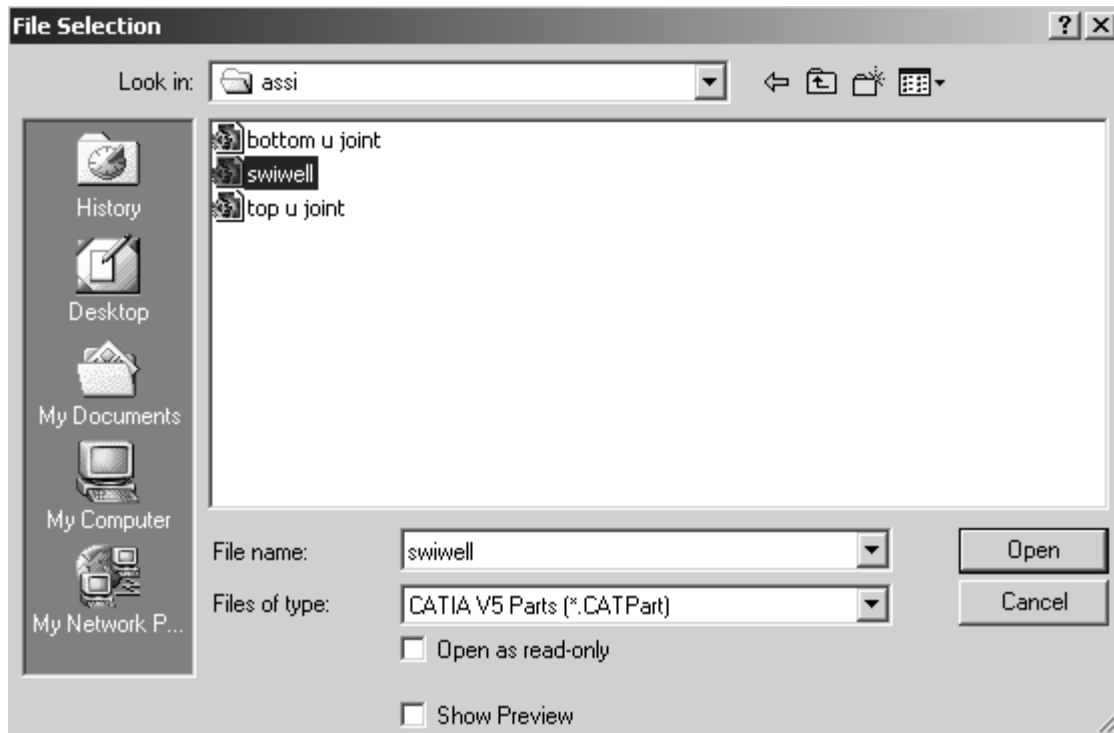

Figure 4.1
- 1.2 With ‘Product1” highlighted, select the Existing Component tool. The Insert an Existing Component widow will appear on the screen as shown in figure 4.1